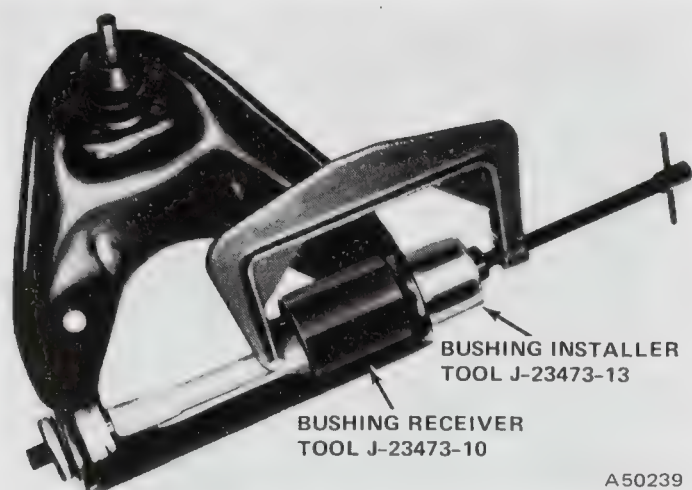

Fig. 2M-39 Upper Control Arm Bushing Installation
(1) Position upper control arm assembly on cross-member and install locknuts (fig. 2M-34). Tighten locknuts to 80 foot-pounds (108.4 Nm) torque.
(2) Insert upper ball joint stud in steering knuckle. Raise lower control using hydraulic jack to ease installation and relieve spring tension on upper ball joint.
(3) Install locknut on upper ball joint stud. Tighten nut to 75 foot-pounds (101.6 Nm) torque and install nut retainer and replacement cotter pin. Do not loosen nut to align slots in nut with hole in ball stud.
(4) Install wheel and tire assembly.
(5) Remove hydraulic jack and support stands and lower car.
(6) Tighten cross-shaft bushing nuts to 60 foot-pounds (81.3 Nm) torque.